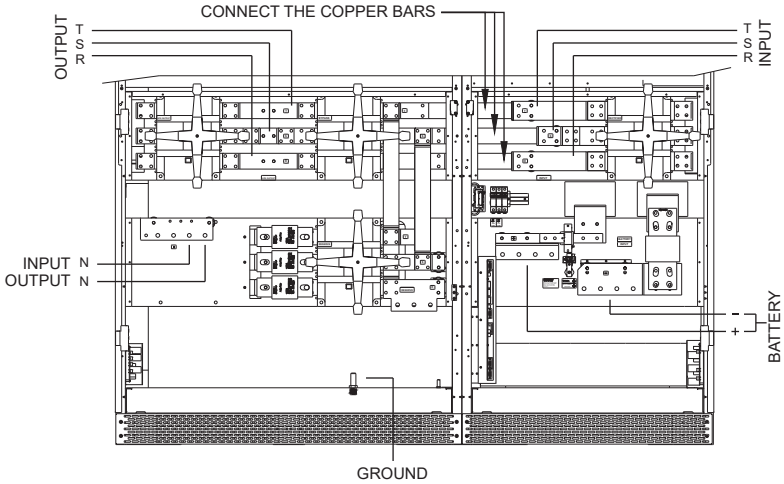

Figure 4-42
- (1) Single input: connect the copper bars (shown in **Figure 4-42**) between the main input terminals and reserve input terminals.